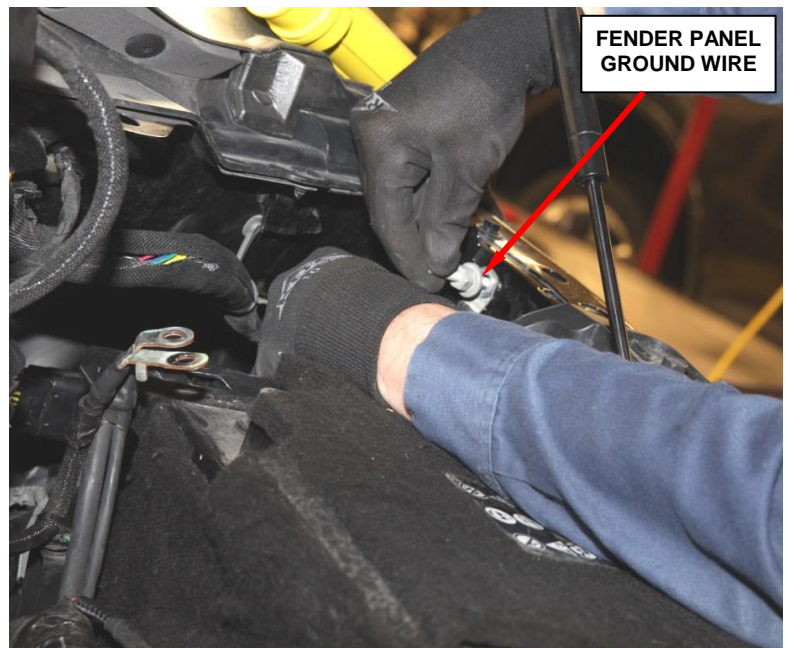

Figure 7 – Fender Panel Ground Wire
16. Disconnect the fender panel ground wire (Figure 7).
45. Connect the fender panel ground wire (Figure 7). Tighten the fastener to 13 ft. lbs. (18 N·m).